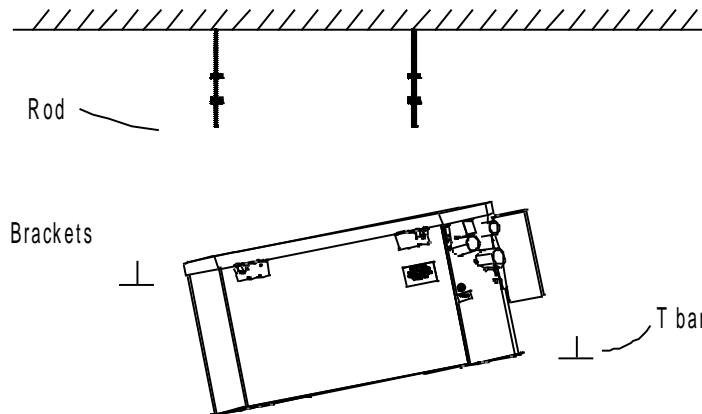
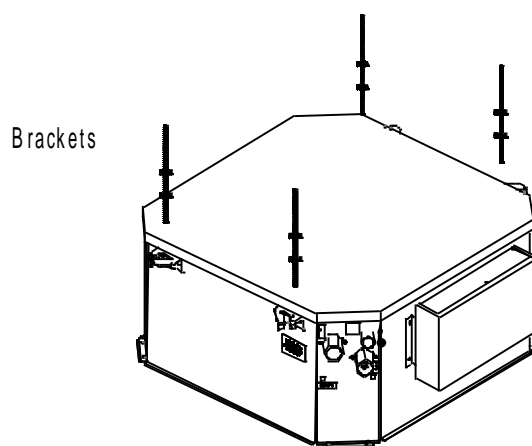
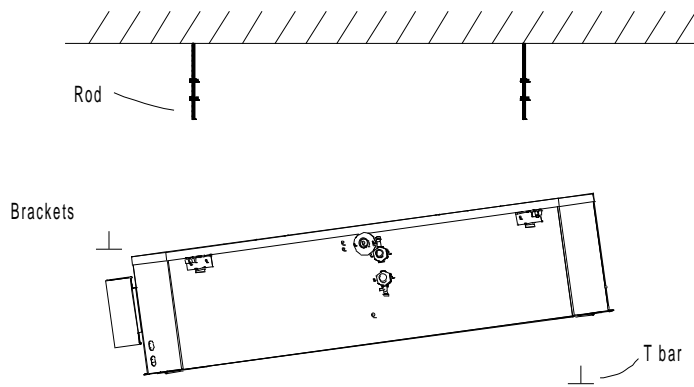
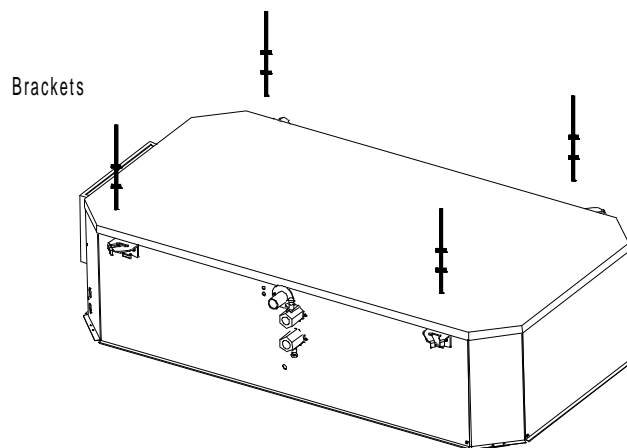

Figure 19
Figure 20
Figure 22
Figure 23
2. Incline the unit (Figure 19, Figure 20, Figure 22, Figure 23) and insert it into the false ceiling. Insert the rods into the bracket slot. With minimum false ceilings clearance, it might be necessary to remove some T bars of the false ceiling temporarily.